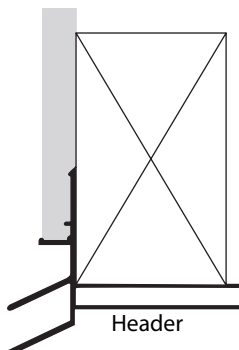

Figure 4
6. Optional extruded aluminum stucco molding is cut square to fit around the perimeter of the window. Jamb moldings fit between header and sill moldings. Stucco moldings can be purchased separately from your Tru-Frame® Dealer (See figure 4).